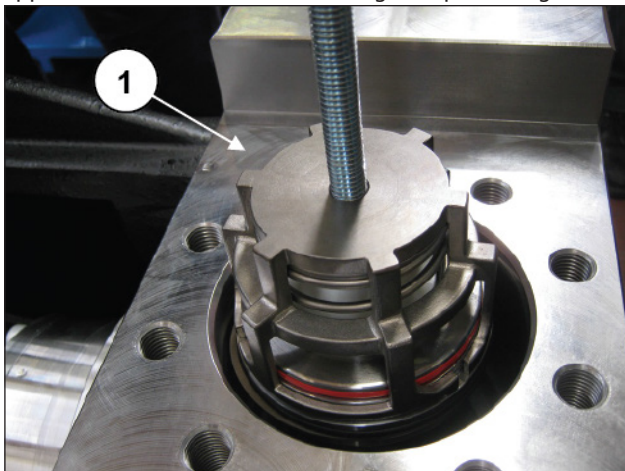

Fig. 172
Extract the suction valve unit with an extractor hammer to be applied on the M12 hole of the valve guide (pos. ①, Fig. 172).